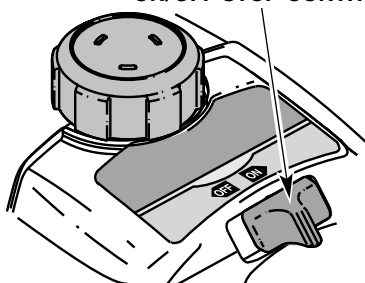
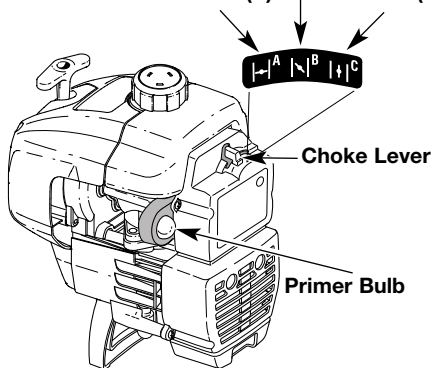

Fig. 7
Fig. 8
2. Put the On/Off Stop Control in the **ON** position (Fig. 7).
3. Fully press and release primer bulb 5 to 7 times. Fuel should be visible in the bulb (Fig. 8).
4. Place the choke lever in the **FULL** choke position (A) (Fig. 8).
6. Place the choke lever in the **PARTIAL** choke position (B) (Fig. 8).
9. Squeeze the throttle control to warm up engine for 5 to 10 seconds. Place the choke lever in the **RUN** position (C) (Fig. 8).
NOTE: Choking is unnecessary when starting a warm engine. Put the On/Off Stop Control in the **ON** position (Fig. 7), and start in with the choke in the **PARTIAL** position (B) (Fig. 8).
2. Put the On/Off Stop Control in the **OFF** position (Fig. 7).